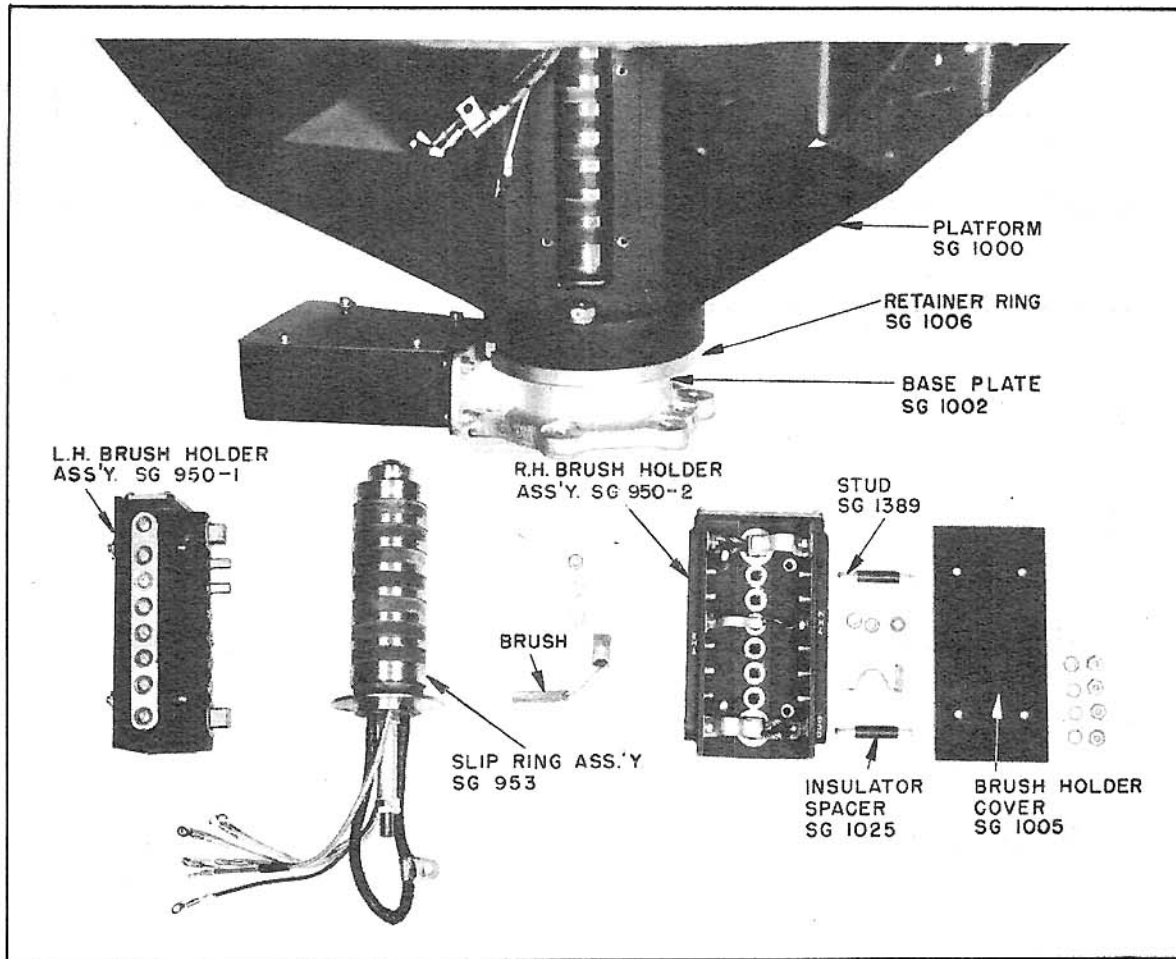

FIGURE 42
Insert leads from main switch and junction box into left hand cord passageway of platform casting and allow free ends to come through one of the brush holder openings in casting. (See Figure 42.)
(6) Brush Holders. - (a) Distribute wires in casting which are marked THSI, TMI, XG and DCG to the left hand brush holder. (See Figure 42.)
(d) Slip the 4 insulator spacers (SG 1025) over the brush holder studs. (See Figure 42.)